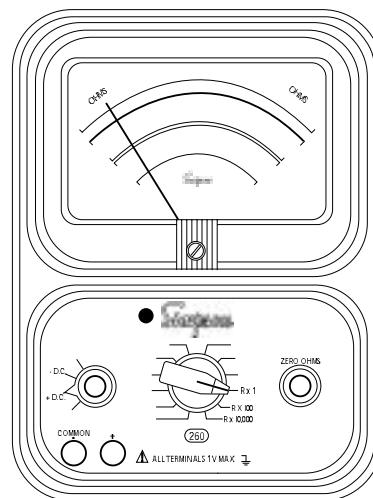

Figure 4-14. Jacks and Switch Positions for Continuity Tests
- Set the FUNCTION switch to the "Ω". Insert the black test lead into the COMMON (-) and the red test lead into the (+) jacks, (Figure 4-14).